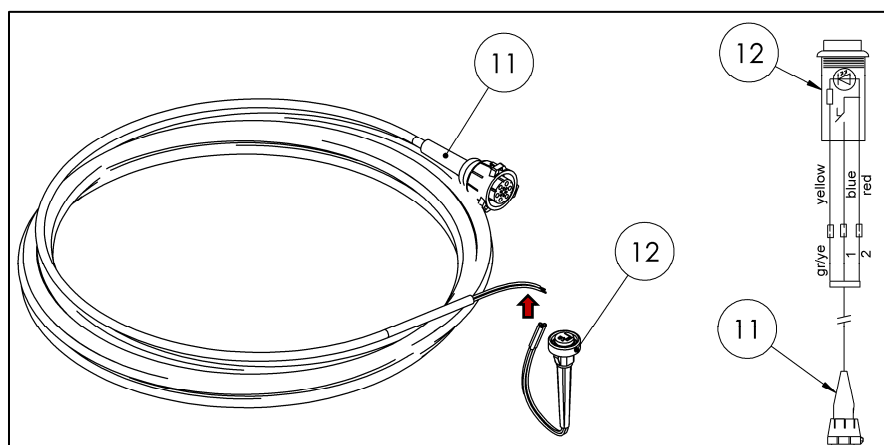

Fig. 46
- Drill a 16 mm dia. hole for the cabin switch (12) in a suitable location on the dashboard.
- Snap the cabin switch (12) into the hole.
- Route the cabin switch unit cable (11) from the lifting gear to the front.
- Connect the cabin switch unit as shown in Fig. 46.